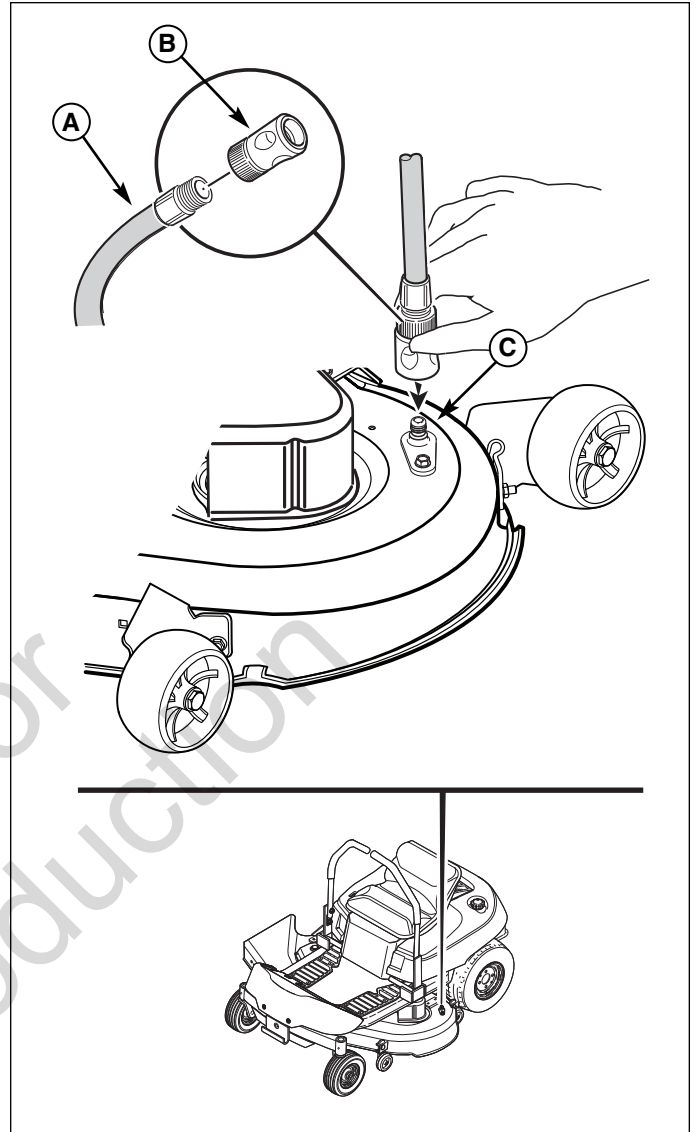

Figure 41. Mower Deck Washout Port
2. Attach the quick disconnect (A, Figure 41) to garden hose (B) and connect to washout port (C) on mower deck.